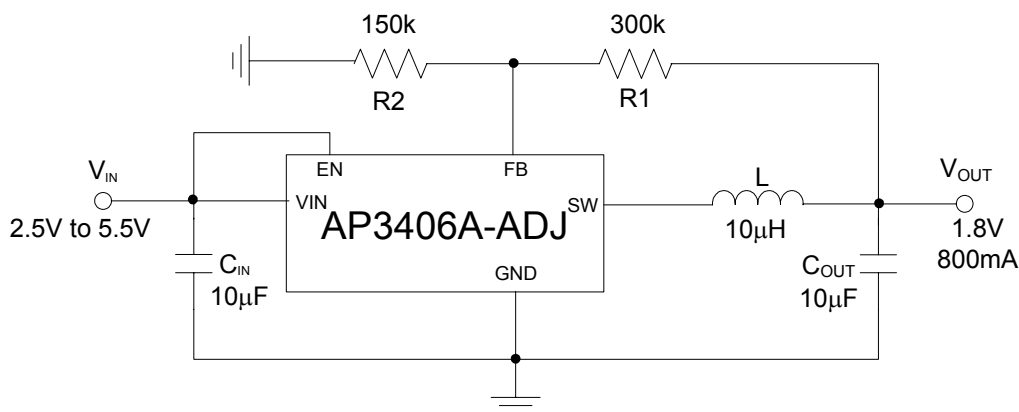

Figure 2. Typical Application of AP3406A
is initiated by the clock signal again, turning off the N-channel synchronous switch and turning on the P-channel switch. (See Figure 2)
3. Component Select Guide (See Figure 2)